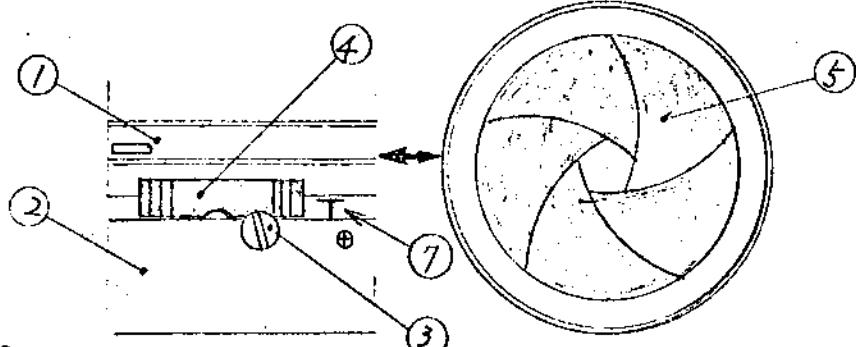
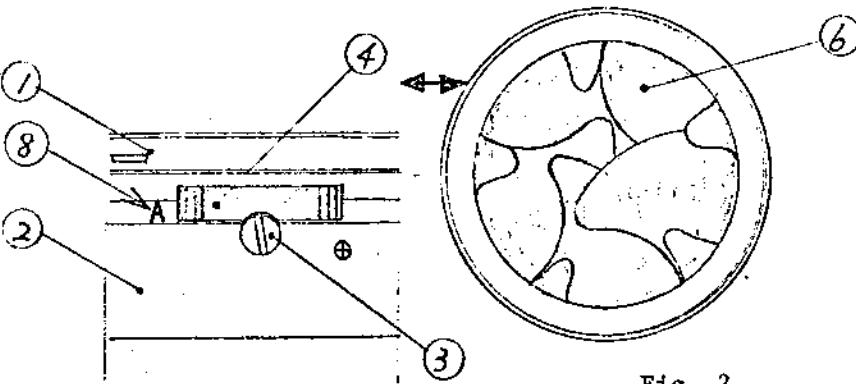

Fig. 1
Fig. 2
Set the T change-over lever of the helicoid with front and rear frame installed at the position shown in Fig. 1, and cause the shutter to operate, and after that put the lever back to the position shown in Fig. 2.
- (1) When the shutter is pushed with T change-over lever (4) set at the position of Fig. 1, the shutter vane (6) must be held raised with diaphragm iris kept in the condition of Fig. 1. That is, the condition of Fig. 1.
- (2) When the T change-over lever (4) is set at the position of Fig. 2, the shutter vane (6) of Fig. 2 must be lowered. That is, the condition of Fig. 2.
- (3) T change-over lever (4) must be smooth in operation, and click movement must be made.
- (4) Change-over of inspection items from 1 to 2 must be smooth and the operation of shutter vane (6) must be swift and stable at the time.